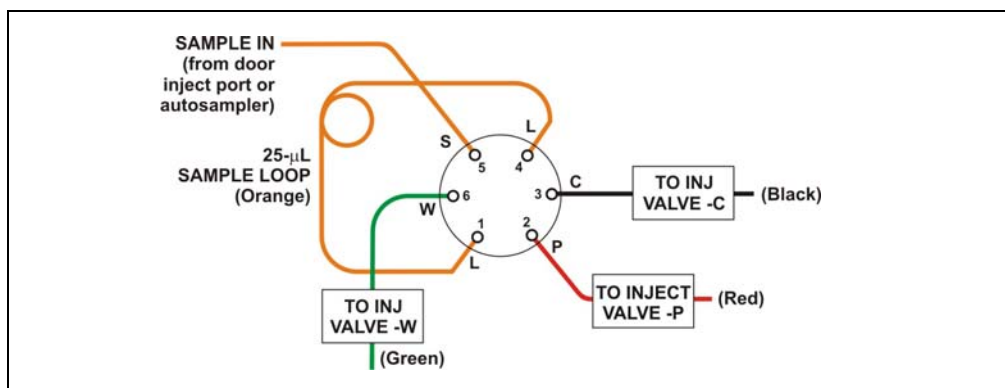

Figure 3-10. Injection Valve Connections
1. Make sure the injection port on the Dionex ICS-2100 front door (see Figure 2-1) is connected to sample port **S (5)** on the injection valve (see Figure 3-10).
1. Disconnect the waste line from port **W (6)** of the injection valve (see Figure 3-10) and attach a shorter line: 25 to 30 cm (10 to 12 inches) of PEEK or PTFE (polytetrafluoroethylene) tubing.